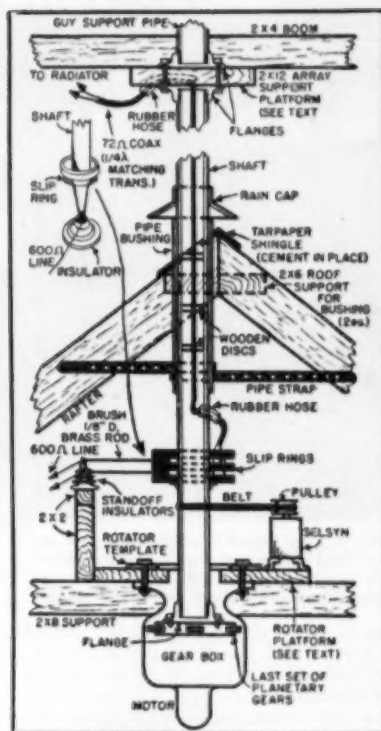

Fig. 4. Detail drawings of the rotator and beam support. One of the two slip ring and brush assemblies is shown at upper left.
It is preferable to install the shaft bushing before the initial assembly of the array. When the proper point was located on the roof, a hole was made in the roof to hold the bushing, as shown in Fig. 4. The roof peak was re-inforced by means of two pieces of 2" x 6" lumber, and a plumb line was dropped through the bushing so that the bushing could be brought into a vertical position. The steel straps were then fastened in place, as shown in Figs. 2 and 4. The bushing must be sealed at the point where it comes through the roof to prevent rain coming into the attic.
All these difficulties can be avoided by making the last set of planetary gears inoperative. These gears may be disabled quite simply by removing the upper spline from the gear box assembly and fastening the shaft pipe flange right on top of the planetary gear housing, as shown in Fig. 4. This operation makes possible a much greater shaft rotation speed for a given voltage applied to the rotator motor. Before the spline was removed, about 25 volts a.c. was required to obtain a shaft rotation of 1 rpm. With the spline removed, only about 15 volts a.c. was required for one rpm. Two other improvements are also obtained: (1) electrical noise is cut to a much lower value; (2) burning of the brushes and commutator is prevented and heating of the motor is reduced.